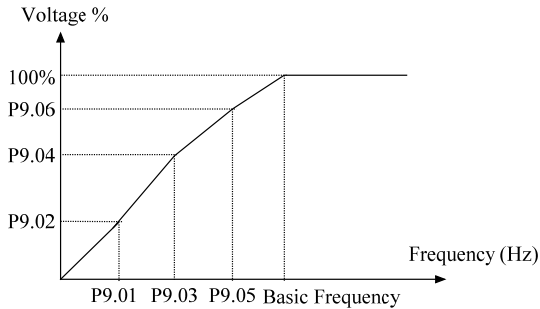

Fig. 5-9-2 V/F-curve defined by user
- ◆ When 4 is selected for P9.00, the user can self-define the V/F curve through P9.01~P9.06. As showed in Fig. 5-9-2, the V/F curve is defined with the four-point broken line to be adapted for the special load characteristics.